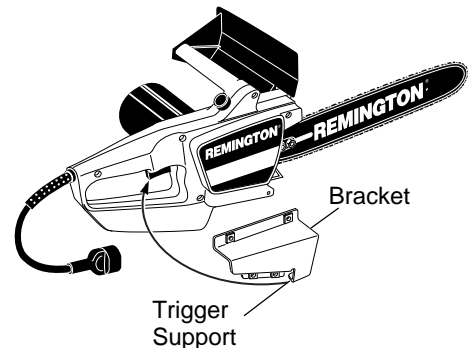

Figure 5 - Bracket with Trigger Support
1. Slip handle bracket over chain saw handle from the right side (see Figure 5). *Note:* The trigger must be depressed before the bracket will go onto the handle. Push the lockout button and depress the trigger. While holding the trigger in, place the trigger support portion of the bracket under the trigger and slide the bracket onto the chain saw handle. The bracket will keep the trigger in the "on" position.